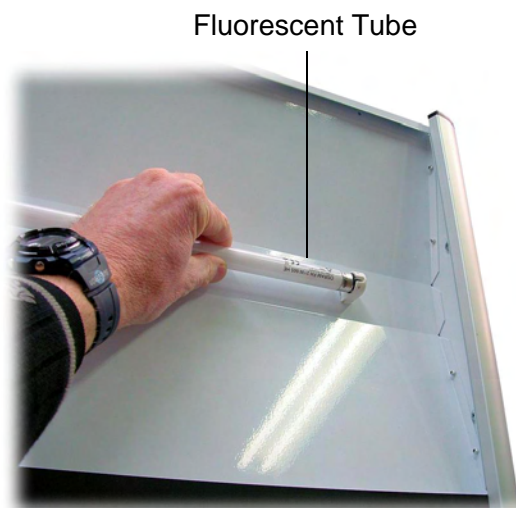

Figure 12:
4. The fluorescent tube can now be removed. Revolve the tube until the pin position allows withdrawal (see Figure 12 below).